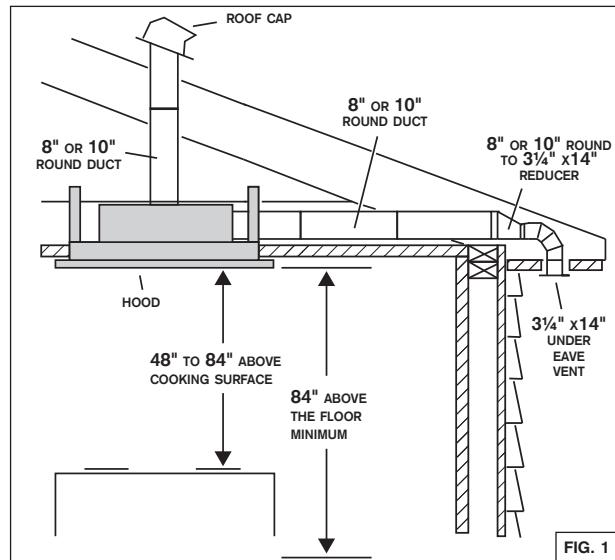

FIG. 1
1. Decide where the ductwork will run between the insert and the outside (FIG. 1).